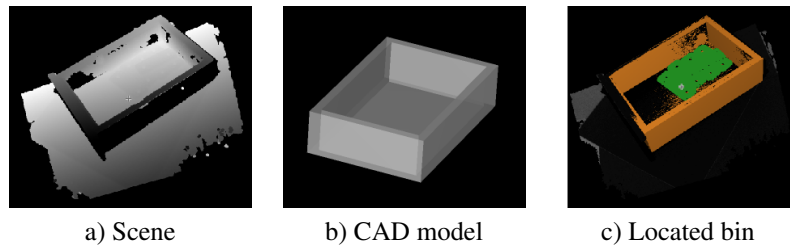

Figure 6.3: The bin can be found in the scene and removed from it using a CAD model of the bin.
1. Create a surface model with the meshed CAD model that models the bin (see figure 6.3 b)).